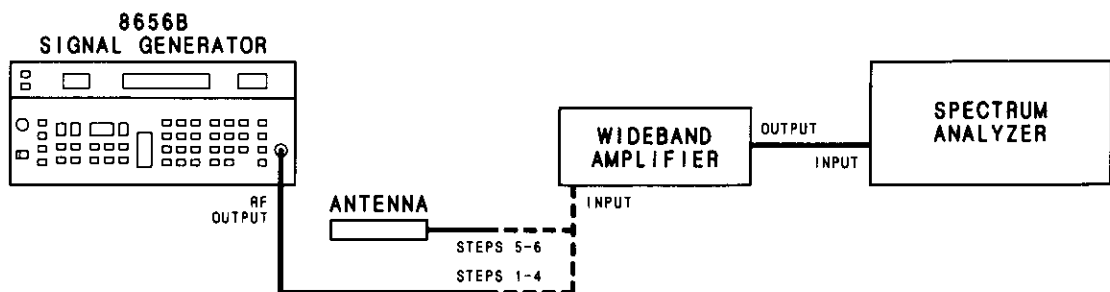

Figure 4-11. Output Leakage Test Setup
PROCEDURE: 1. Connect equipment as shown in Figure 4-11.
5. Connect the one-inch loop antenna to the analyzer through the 26 dB amplifier as shown in Figure 4-11. Hold the end of the loop antenna cylinder in contact with the front surfaces of the Signal Generator. All signals and noise should be below the reference graticule line (i.e., below -107 dBm).